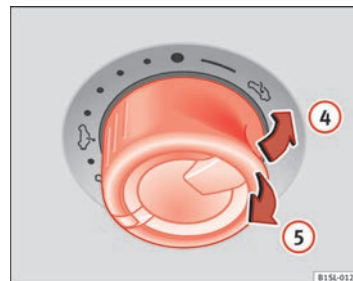

Fig. 27 In the interior roof: turn the knob to raise and to close the sunroof
- Before approx. 5 seconds have passed since the activation of the anti-trap function, pull the knob ⇒ Fig. 27 until the sliding/tilting sunroof is completely closed.